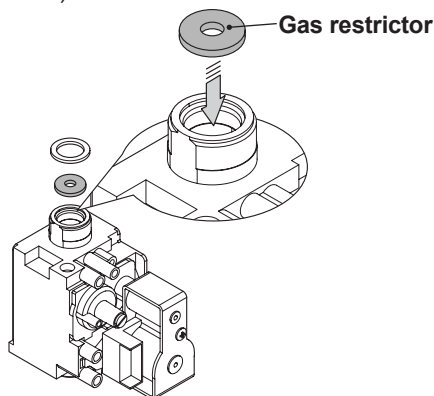

Fig. 9.2
- Carry out gas conversion by correctly replacing the gas restrictor (Fig. 9.2), referring to the "Technical Data" section pag. 32 (Inovia 25C ERP), pag. 36 (Inovia 30C ERP) and pag. 40 (Inovia 35C ERP).